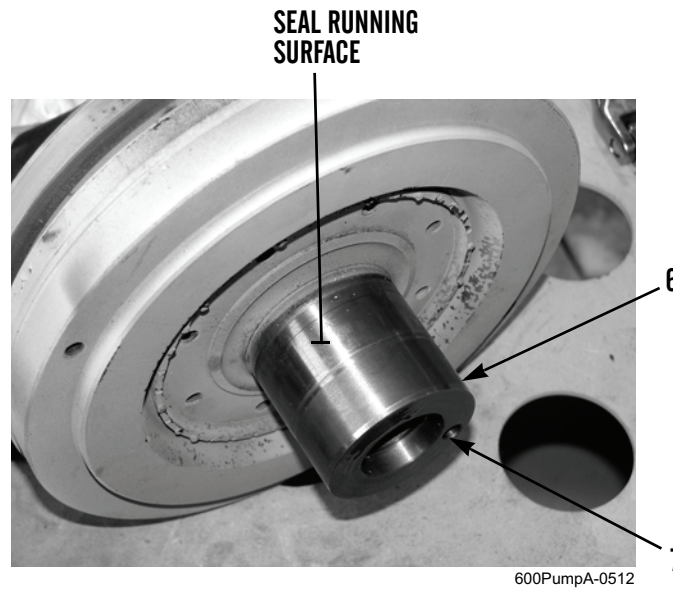
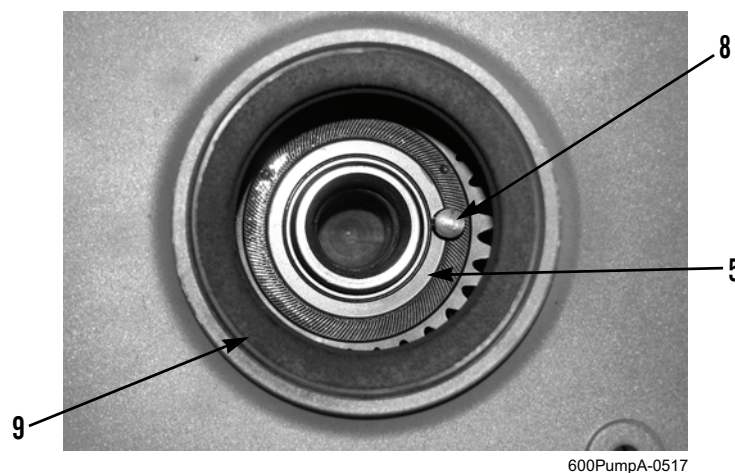

Figure 3. Inspecting Seal Running Surface on Vibration Damper Shaft.
Figure 4. Crankshaft.
2. Inspect seal running surface on vibration damper shaft (Figure 3, Item 6) for score damage or wear.
1. Apply a light coat of oil to front main seal (Figure 4, Item 9).
2. Align hole (Figure 3, Item 7) in vibration damper shaft (Figure 3, Item 6) with pin (Figure 4, Item 8) on crankshaft (Figure 4, Item 5).